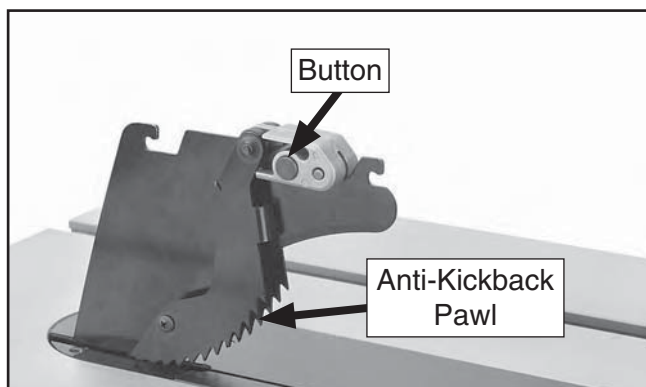

Figure 51. Button for removing pawls.
2. Press the button shown in **Figure 51** on the block that holds the pawls, then remove the pawls from the spreader.
3. Press the button on the pawl block, shown in **Figure 51**, then pivot the pawls down until they lock into place.